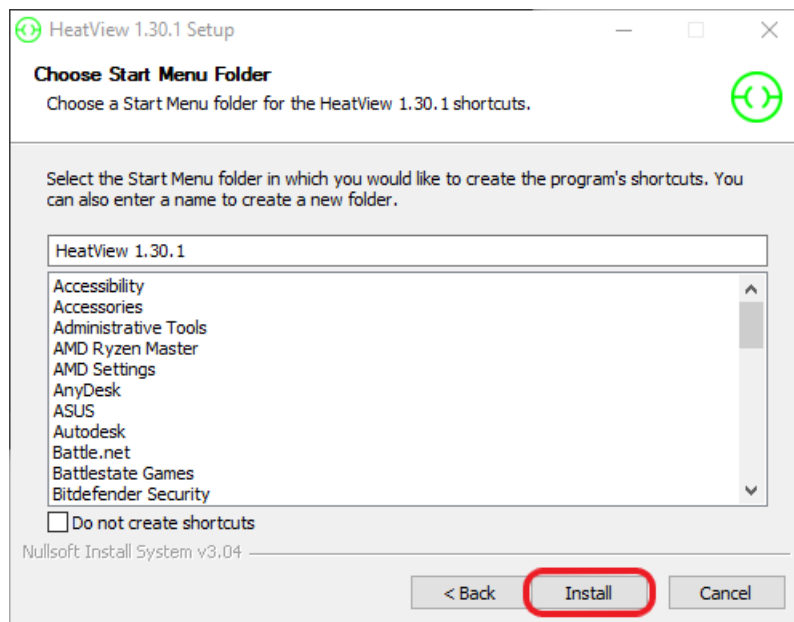

Figure 6: Installation – 'Start Menu' folder name
4. Next, you can choose to rename the folder the program will be accessible under in the 'Start Menu'. The default is "HeatView X.X.X" (where X.X.X is the version number). Once you've chosen your desired name, click 'Install' – as highlighted in Figure 6 below – to proceed.